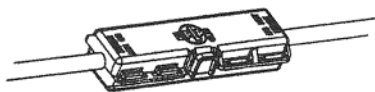

FIGURE 3 - COMPLETED APPLICATION
2.04 Coax Drop Wire Closure is ready for burial. (Figure 3)